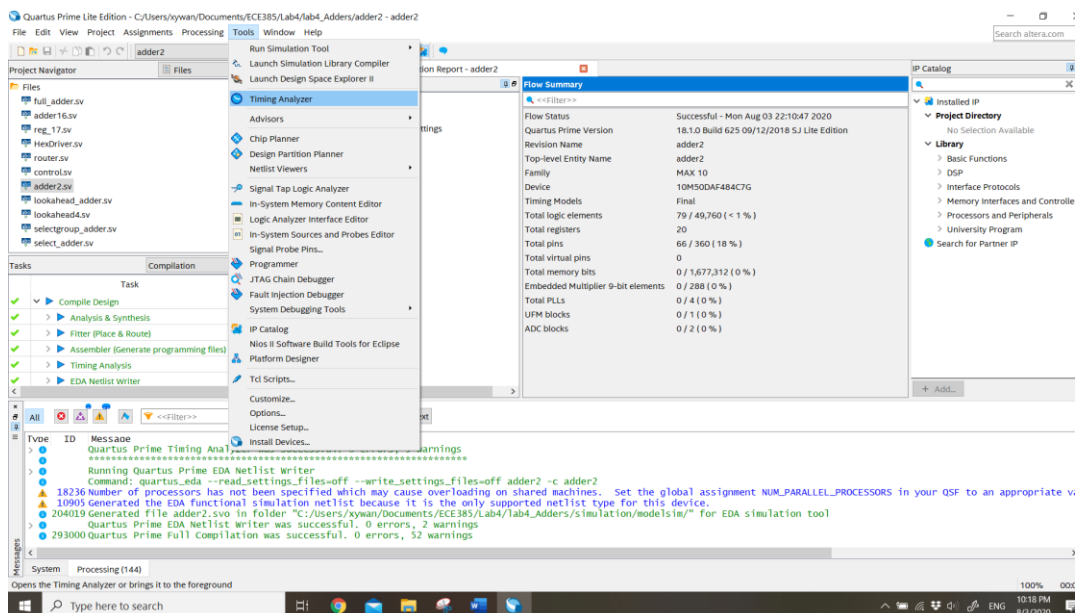

Figure 4
3. Start *Time Analyzer* from **Tool->Time Analyzer** (See figure 4) or by click  from the software action bar